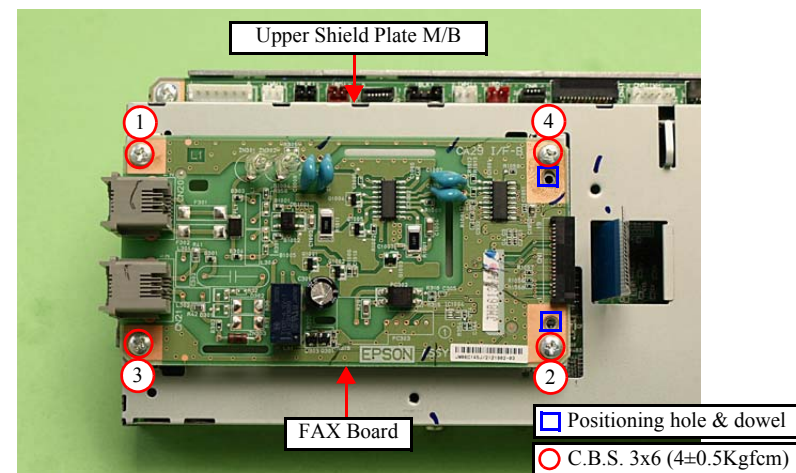

Figure 4-44. Removing the FAX Board (2)
- Align the positioning holes (x2) of the FAX Board with the dowels of the Upper Shield Plate M/B. (See Fig. 4-44.)
- When installing the FAX Board, tighten the screws in the order shown in Fig. 4-44.